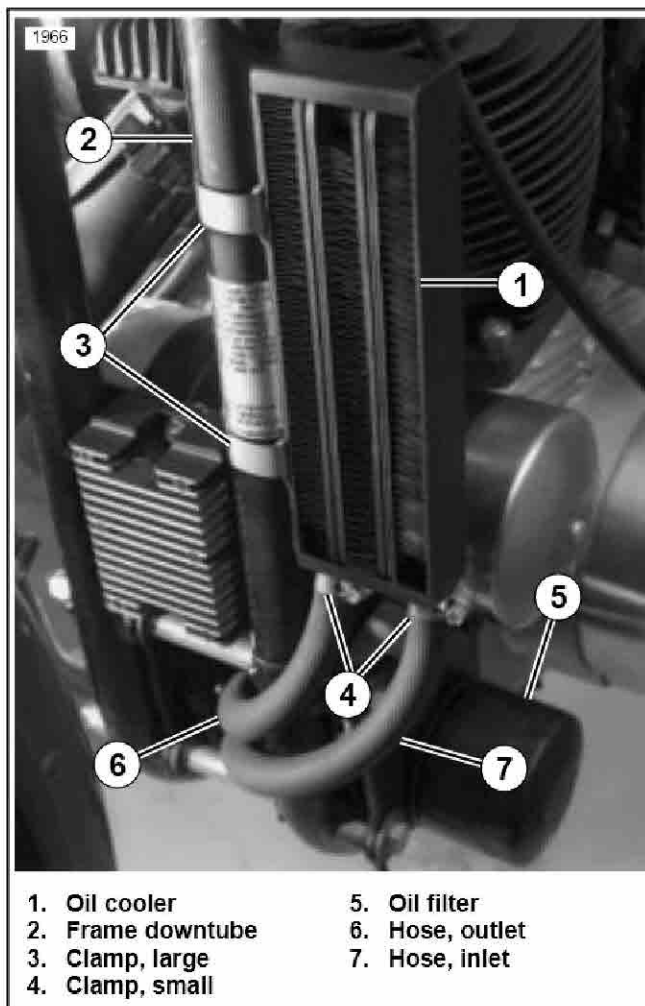

Figure 2. Oil Cooler Mounting (Typical)
1. See Figure 2. Slide two large clamps through slots on side on oil cooler. Mount oil cooler on left frame downtube, below frame weldment. Tighten clamp securely.
3. See Figures 2 and 3. Connect 14 in. hose to oil pump return fitting. Route hose forward and through hole in right front engine mount and up to oil cooler inlet fitting. Secure connections with small clamps from kit.
4. See Figures 2 and 3. Connect 14 in. hose to oil pump return fitting. Route hose forward and through hole in right front engine mount and up to oil cooler inlet fitting. Secure connections with small clamps from kit.
3. See Figure 2 and 8. Connect 14 in. inlet hose to oil cooler inlet fitting. Route hose down and back between front engine mounts and connect to oil pump return fitting. Secure connections with small clamps from kit.